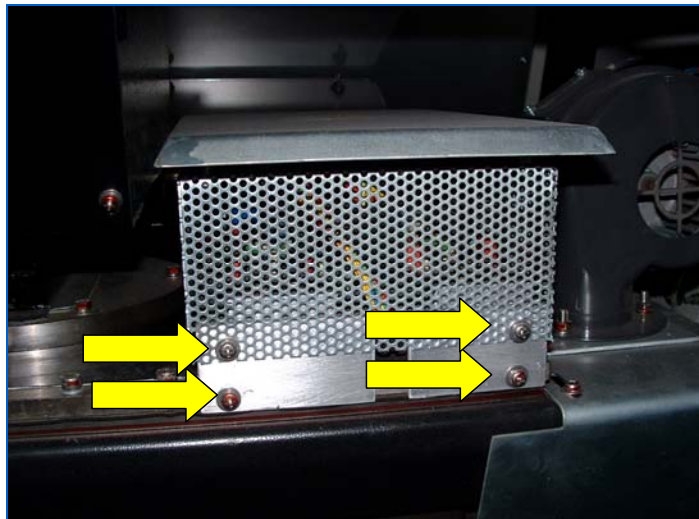

Figure 265: Controller Cover Mounting Screws
3. Remove the mesh cover on the X-ray Controller by undoing the mounting bolts for that cover (Figure 265).